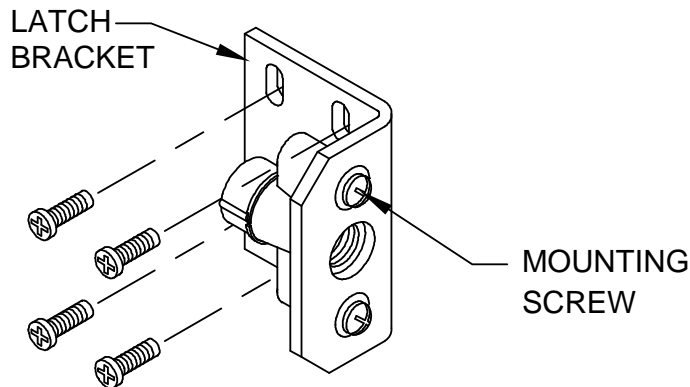

FIGURE 3
H. Door Latch Alignment (Fig. 3)